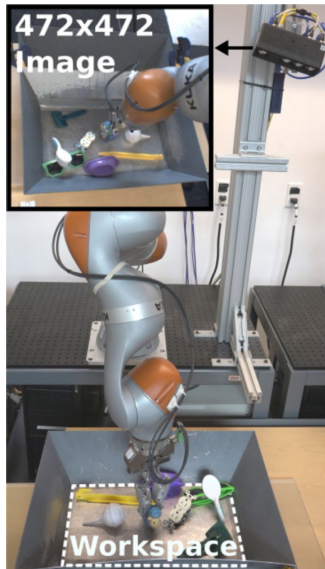

Figure 1: Configuration of robot cell, with a sample observation image on top-right box
- 1 Observes Image from robot's camera (see Fig. 1)